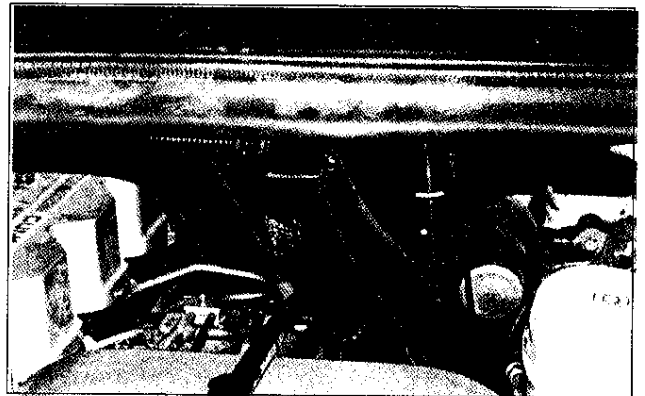

Fig. 15
- d. Connect the polytube fitting on the driver's side of the exhaust brake harness must be connected to the 1/4" x 6" vacuum hose connected to the vehicle vacuum supply in the previous section. If necessary use a sharp knife to trim the 6" hose as required and connect it to the harness fitting (Fig. 15).